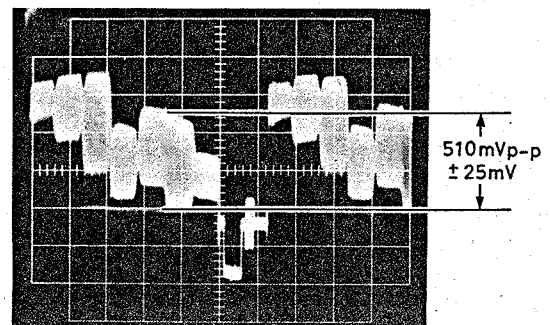

Fig. 4-44 Chroma Gain and Flicker Cancel Adjustment
* Adjustment using oscilloscope and monitor TV (Fig. 4-44)